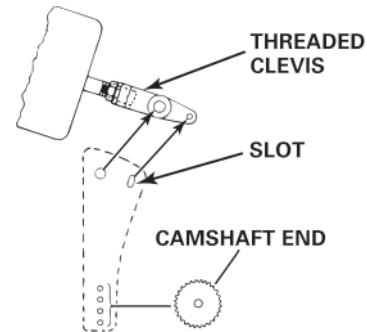

Figure 8
- **If the small clevis hole doesn't align within the slot:** Adjust the clevis until you can see the small clevis pin hole within the slot. Figure 8.